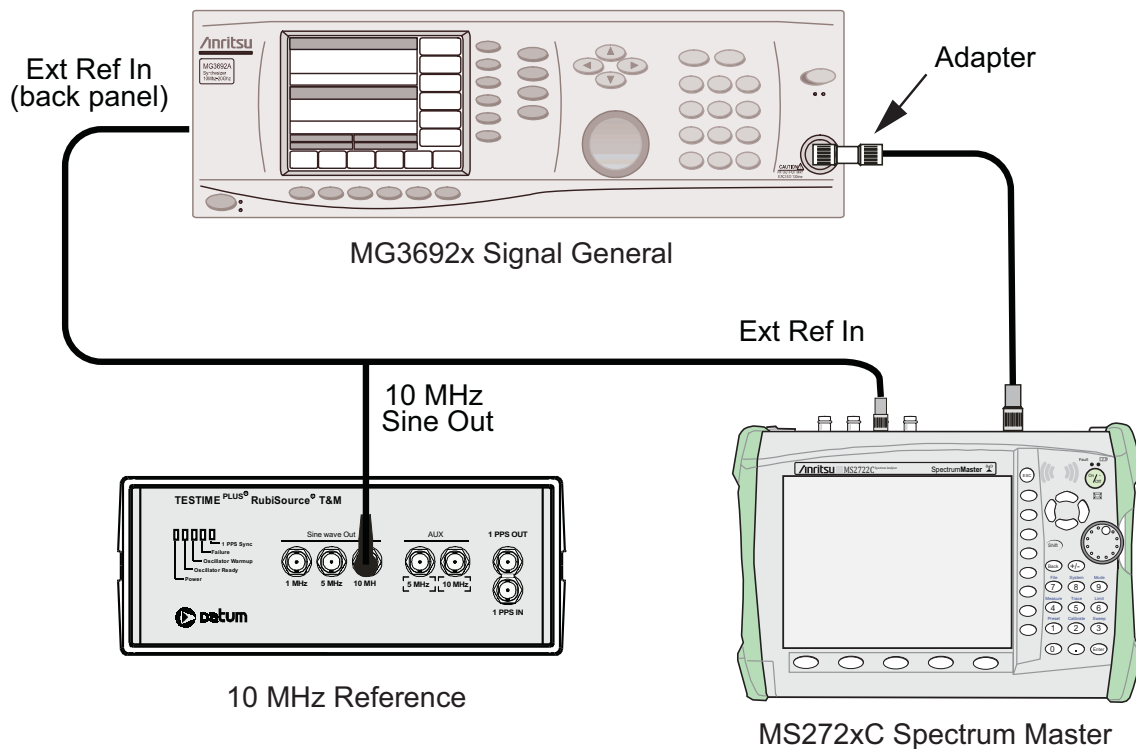

Figure 2-1. Resolution Bandwidth Accuracy Test Setup
1. Connect the external 10 MHz Reference both to the MG3692x or MG3695C Synthesized Signal Generator and to the Spectrum Master MS272xC, as shown in Figure 2-1.
2. Set the MS272xC to Spectrum Analyzer mode and then Preset the instrument. Press the **Shift** key, the **Sweep** (3) key, Sweep Mode submenu key and then the Performance submenu key.
8. Under the **Measure** menu, press (**Shift** (4)), press OCC BW and set it to On.